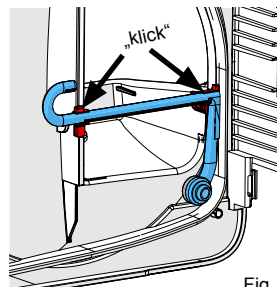

Fig. 12
- Replace rinse tube by pressing rinse tube into both clamps (Fig. 12).